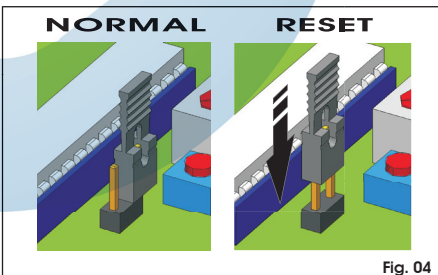

Fig. 04
- 4- Give an **OPEN A** command with any device connected to this input: the display shows value "P-", and the leaves begin to move. The first manoeuvre performed by the leaves must be closing. If this does not happen, stop the gate movement with a reset pulse. To do this, make a bridge between the two **"RESET"** PINS, using the connector (see Fig.04). Cut power and put the connector back in its normal position (Fig. 04). Then change over the wires of the motor/s, which had performed the opening operation. Resume the programming stage from point 1.